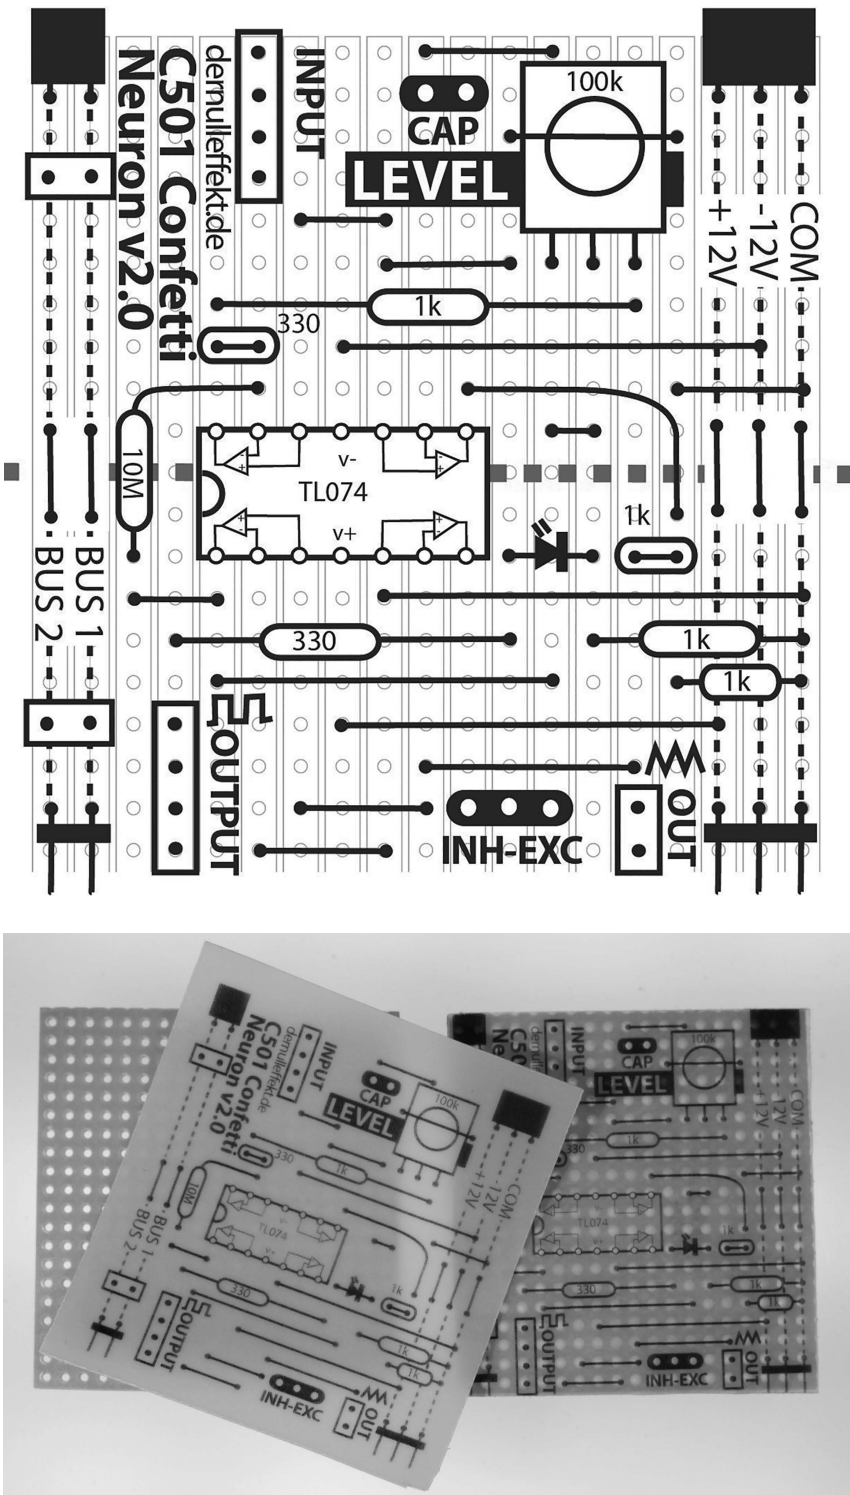

Figure 31.1 Confetti Neuron paper template; Confetti Neuron paper template and strip board.
- Download and print the paper design from the website: “Confetti501_Confetti Neuron_20.tif” (Figure 31.1).